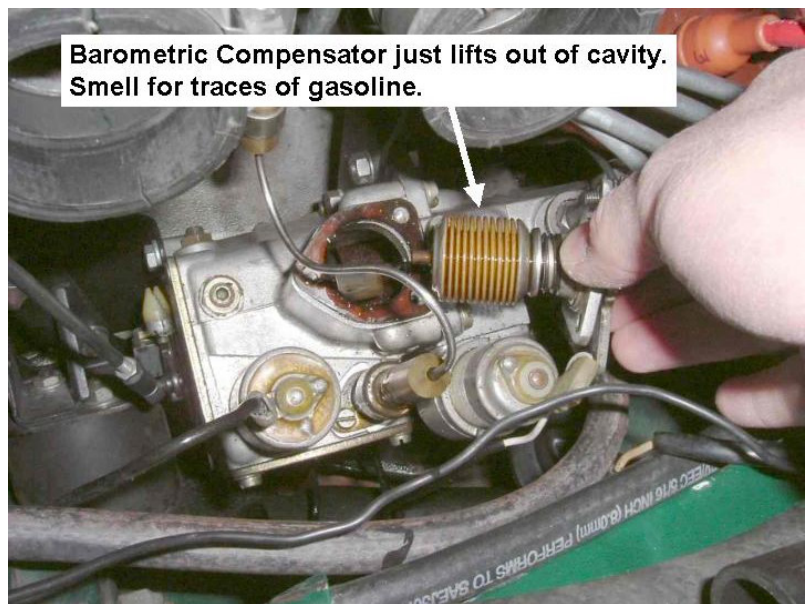

Fig 3. Removing the Barometric Compensator. To remove the BC simply remove the three machine screws and lift the BC out. It's not attached to anything inside.
**VERIFICATION:** Remove the Barometric Compensator and look for a broken retaining spring. See Fig 3. You can use your finger to push on the spring to verify that it's attached at the top and bottom. See Fig 4.
- a. Remove Barometric Compensator (3 screws) See Fig 3.